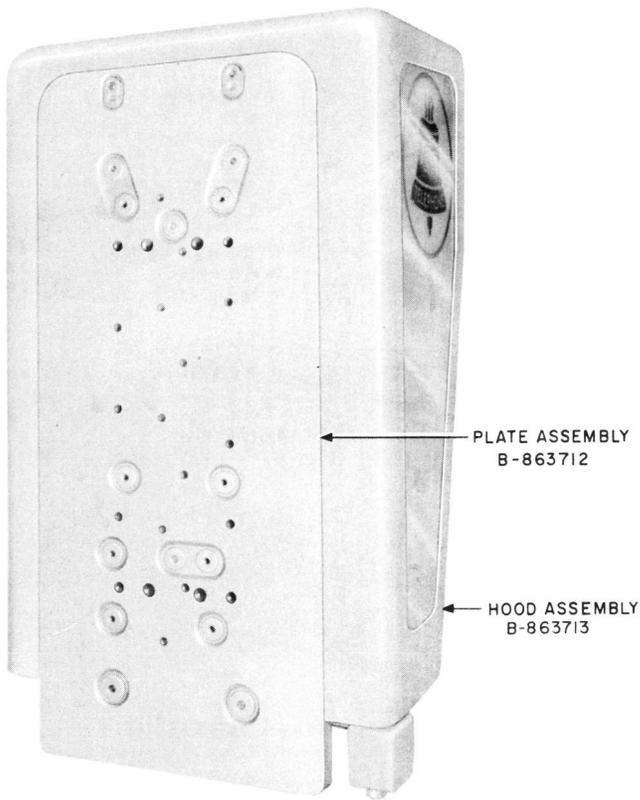

Fig. 6 — Rear View, without Mounting Post
**3.04** The mounting may be installed on a wall or similar surface. If the mounting is fastened to a steel post, special clamps are available (Fig. 6, 7, and 8).